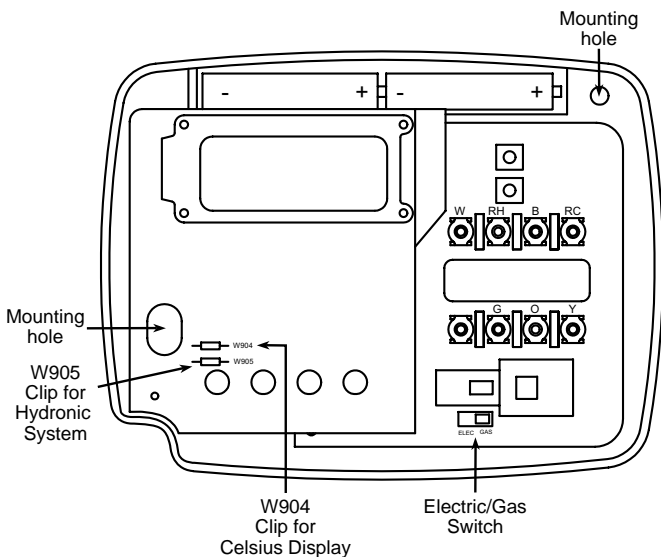

Figure 1. Thermostat base
This thermostat is configured from the factory to operate a heat/cool, fossil fuel (gas, oil, etc.), forced air system. It is configured correctly for any system that DOES NOT require the thermostat to energize the fan on a call for heat. If your system is an electric or heat-pump system that REQUIRES the thermostat to turn on the fan on a call for heat, locate the **GAS/ELECTRIC** switch (see fig. 1) and switch it to the **ELECTRIC** position. This will allow the thermostat to energize the fan immediately on a call for heat. If you are unsure if the heating/cooling system requires the thermostat to control the fan, contact a qualified heating and air conditioning service person.
5. Fasten base loosely to wall, as shown in fig. 1, using two mounting screws. Adjust until level, and then tighten screws. (Leveling is for appearance only and will not affect thermostat operation.) If you are using existing mounting holes, or if holes drilled are too large and do not allow you to tighten base snugly, use plastic screw anchors to secure subbase.
This thermostat requires 2 "AAA" alkaline batteries to operate. If "**LO BATTERY**" is displayed, the batteries are low and should be replaced with fresh "AAA" Energizer® alkaline batteries. To replace the batteries, install the batteries along the top of the base (see fig. 1). The batteries must be installed with the positive(+) ends to the right.
- **°F/°C CONVERTIBILITY** — The factory default setting is Fahrenheit. Clipping W904 jumper on the circuit board (see fig. 1) will alter this feature to Celsius temperature setting.